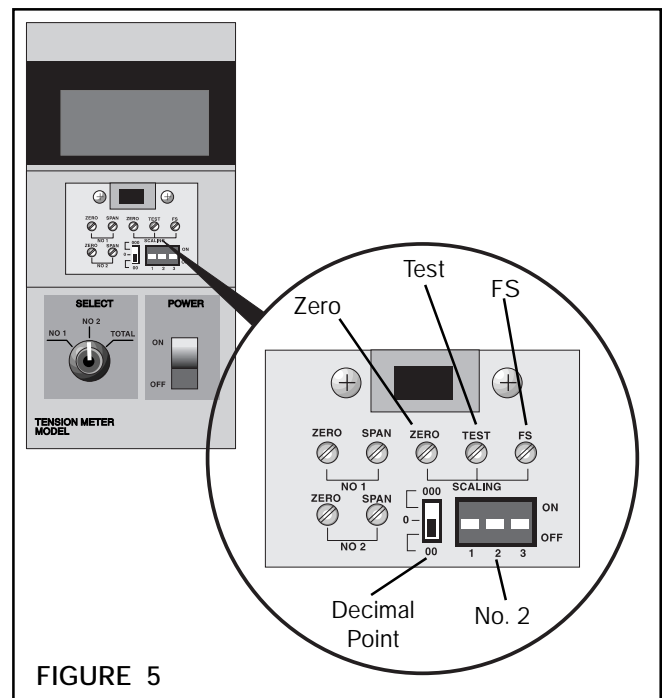

FIGURE 5
3. Set **No. 2 Dip Switch** to **ON**. This sets the TM210 to the Scaling Mode (See Fig. 5).
4. Rotate Scaling Mode **TEST** variable resistor to full counter clockwise position (See Fig. 5).
5. Set **DECIMAL POINT** switch to the correct position (See Fig. 5 & Table 1).
7. Rotate the **TEST** variable resistor to the full clockwise position (See Fig. 5)
8. Adjust the **FS** variable resistor until the Digital Display indicates the desired maximum range (50.0, 200, 500, etc.) (See Fig. 5).
9. Set **No. 2 Dip Switch** to **OFF**. This sets the TM210 to the Normal Operating Mode (See Fig. 5).